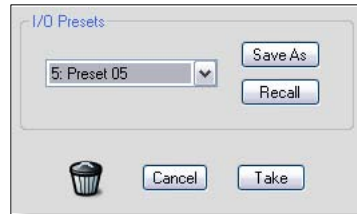

Figure 5-22 — Recalling a preset
1. Within the I/O Presets section (on the I/O Control page) click on the drop down box and scroll to the preset which is to be recalled (see figure 5-22).